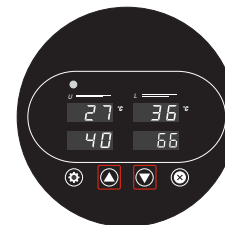

Fig. 6
6. Press Up **11** or Down **12** buttons to select the desired time in seconds (Fig. 6).